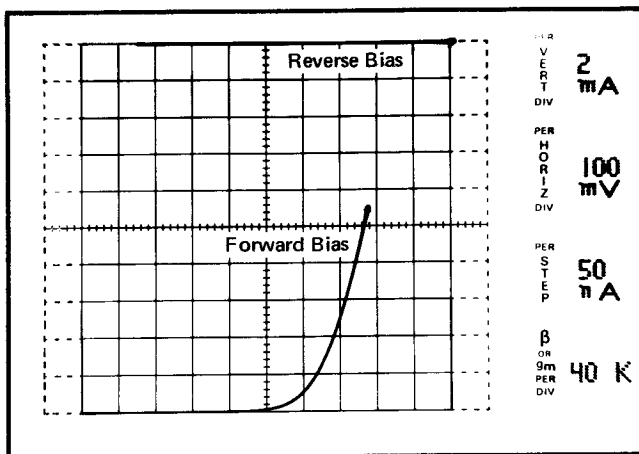

Fig. 2-8. Display of forward and reverse bias characteristics of a signal diode.
33. Set the LEFT-OFF-RIGHT switch to RIGHT and turn the VARIABLE COLLECTOR SUPPLY control clockwise. Note the display of the forward voltage characteristic of the diode. (see Fig. 2-8).
34. Set the COLLECTOR SUPPLY POLARITY switch to -(PNP). Note the display of the reverse voltage characteristic of the diode (see Fig. 2-8).